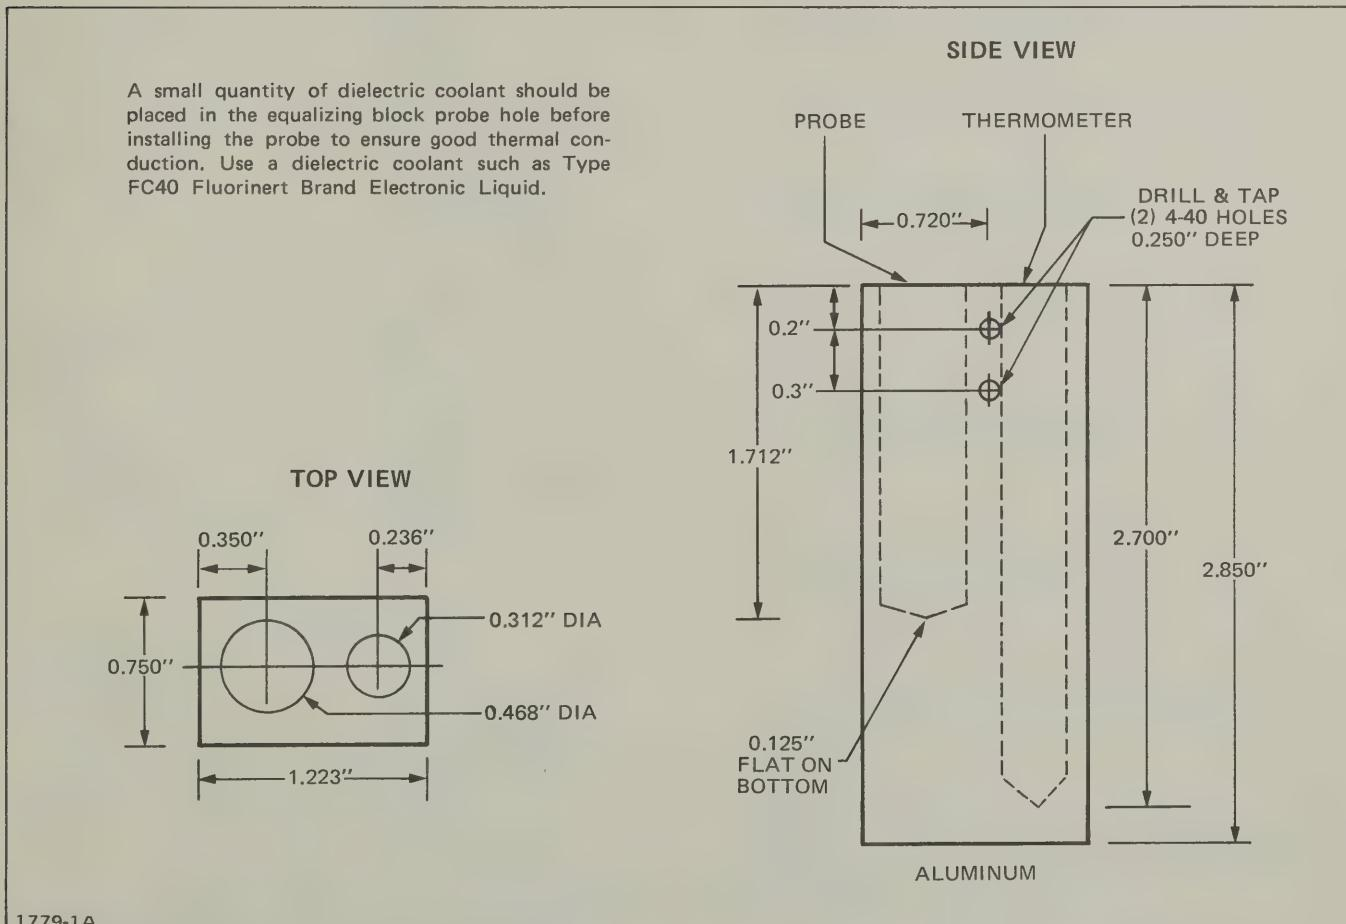

Fig. 3-2. Temperature probe equalizing block.
e. Remove the temperature probe and reference thermometer from the solution and place in a temperature equalizing block (see Figure 3-2). Use a dielectric fluid (see note in Figure 3-2).